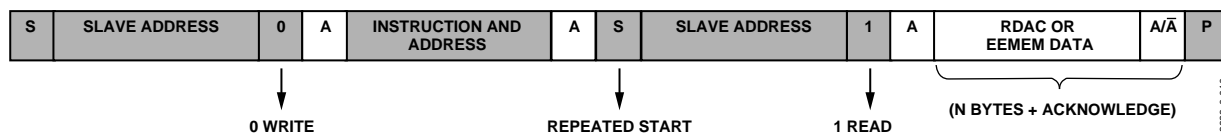
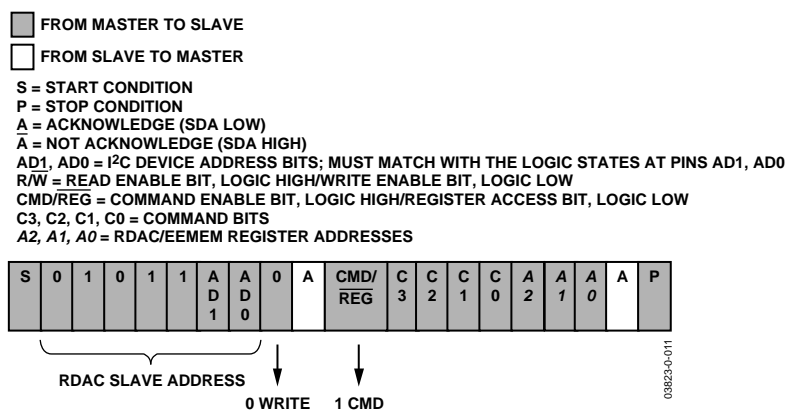
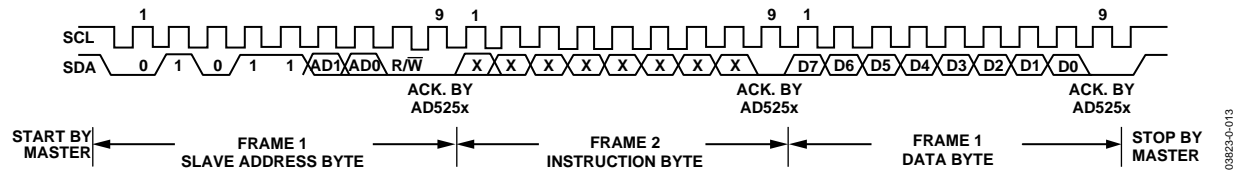
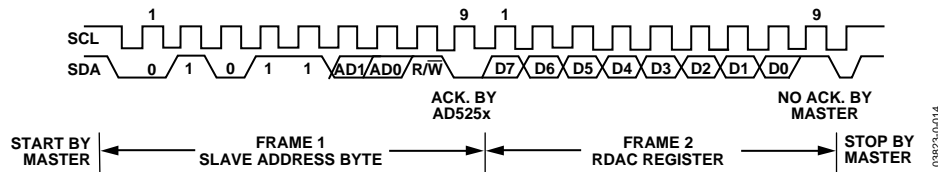

Figure 30. RDAC or EEMEM Random Read
Figure 31. RDAC Quick Command Write (Dummy Write)
Figure 33. General I²C Write Pattern
Figure 34. General I²C Read Pattern
Figure 30 illustrates a random RDAC or EEMEM read operation. This operation allows users to specify which RDAC or EEMEM register is read by issuing a dummy write command to change the RDAC address pointer and then proceeding with the RDAC read operation at the new address location.
The AD5251/AD5252 feature 12 quick commands that facilitate easy manipulation of RDAC wiper settings and provide RDAC-to-EEMEM storing and restoring functions. The command format is shown in Figure 31, and the command descriptions are shown in Table 9.
The first byte of the AD5251/AD5252 is a slave address byte (see Figure 33 and Figure 34). It has a 7-bit slave address and an R/W bit. The 5 MSB of the slave address is 01011, and the next 2 LSB is determined by the states of the AD1 and AD0 pins. AD1 and AD0 allow the user to place up to four AD5251/AD5252 devices on one bus.
AD5251/AD5252 can be controlled via an I²C-compatible serial bus and are connected to this bus as slave devices. The 2-wire I²C serial bus protocol (see Figure 33 and Figure 34) follows:
1. The master initiates a data transfer by establishing a start condition, such that SDA goes from high to low while SCL is high (see Figure 33). The following byte is the slave address byte, which consists of the 5 MSB of a slave address defined as 01011. The next two bits are AD1 and AD0, I²C device address bits. Depending on the states of their AD1 and AD0 bits, four AD5251/AD5252 devices can be addressed on the same bus. The last LSB, the R/W bit, determines whether data is read from or written to the slave device.
the addresses of the EEMEM and RDAC registers (see Figure 27 and Figure 28). When MSB = 1 or when the device is in CMD mode, the four bits following the MSB are C3 to C1, which correspond to 12 predefined EEMEM controls and quick commands; there are also four factory-reserved commands. The 3 LSB—A2, A1, and A0—are addresses, but only 001 and 011 are used for RDAC1 and RDAC3, respectively (see Figure 31). After acknowledging the instruction byte, the last byte in the write mode is the data byte. Data is transmitted over the serial bus in sequences of nine clock pulses (eight data bits followed by an acknowledge bit). The transitions on the SDA line must occur during the low period of SCL and remain stable during the high period of SCL (see Figure 33).
3. In current read mode, the RDAC0 data byte immediately follows the acknowledgment of the slave address byte. After an acknowledgement, RDAC1 follows, then RDAC2, and so on. (There is a slight difference in write mode, where the last eight data bits representing RDAC3 data are followed by a no acknowledge bit.) Similarly, the transitions on the SDA line must occur during the low period of SCL and remain stable during the high period of SCL (see Figure 34). Another reading method, random read method, is shown in Figure 30.
4. When all data bits have been read or written, a stop condition is established by the master. A stop condition is defined as a low-to-high transition on the SDA line that occurs while SCL is high. In write mode, the master pulls the SDA line high during the 10th clock pulse to establish a stop condition (see Figure 33). In read mode, the master issues a no acknowledge for the ninth clock pulse, that is, the SDA line remains high. The master brings the SDA line low before the 10th clock pulse and then brings the SDA line high to establish a stop condition (see Figure 34).